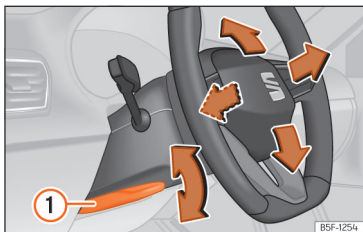

Fig. 64 Lever in the lower left side of the steering column.
- Pull lever >>> Fig. 64 ① down, move the steering wheel to the desired position and lift the lever back up until it locks.
- After adjusting the steering column, push lever >>> Fig. 64 ① firmly upwards so that the steering wheel does not accidentally change position while driving.